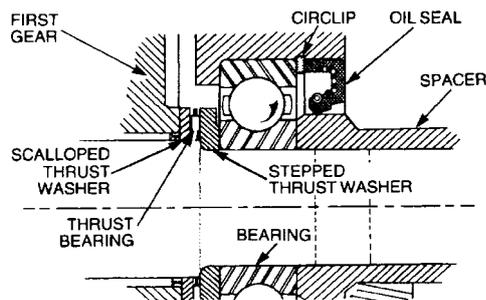

Figure 171 Installing the Main Shaft and Rear Spacer
- y. Push the mainshaft fully into the bearing, ensuring that the stepped washer, bearings and thrust washers are correctly located (Figure 171).
- z. Install the mainshaft rear spacer on the shaft, ensuring it is positioned against the bearing and in the seal (Figure 171).